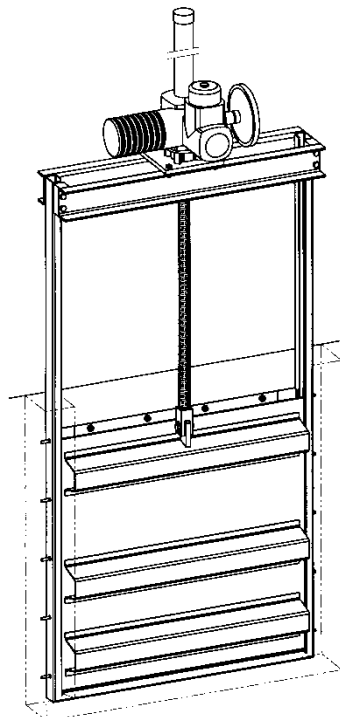

Fig. 9
- Position Sluice Gate Valve in respective recess and align with plumb and level acc. Fig. 9.